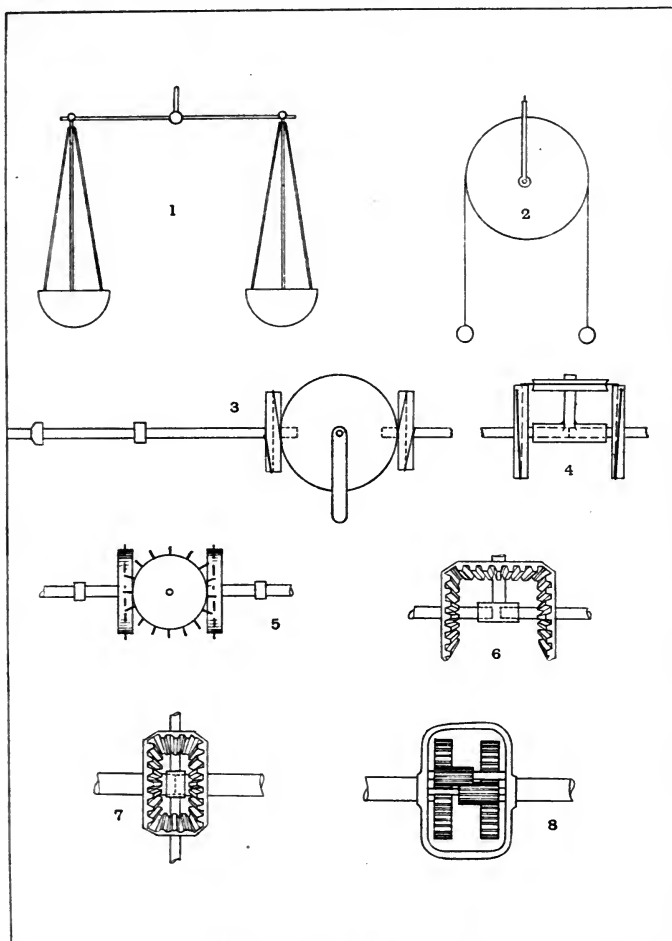

FIG. 53.—BALANCE GEARING.
To understand how this is done, first take a grocer's balance or pair of scales (1 in fig. 53). Move it upwards by the loop at the middle of the beam, and you will find, of course, that, so long as the scales are not interfered with, they will move upwards at the same speed as the loop and as each other. Do the same again, but hold up a stick so that the side of one of the scales will rub against it. The free scale will now move up faster than the one subjected to the friction against the stick, the beam swinging out of the horizontal, but the *average* speed and distance travelled by the two scales will be equal to those of the loop. Now, for the beam substitute a pulley; and for the scales, a cord passed over the pulley and having equal weights at each end (2). Experiments tried with the scales will have similar results when tried with the pulley, cord, and weights.